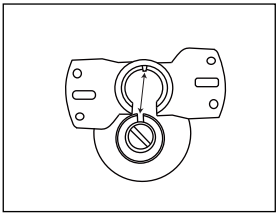

Figure 1
1. Insert the downrod ball head into the groove of the mounting bracket.(Figure 1)
- Your new ceiling fan will require a grounded electrical supply line of AC110~130V/60Hz15 Amp Circuit. Electrical code requires use of a fan-rated outlet box to support the extra weight and motion associated with a ceiling fan. A fan-rated box will be labeled as such and typically supports up to a 70lbs ceiling fan. Fan-Rated Outlet Boxes vary in rating and design. Ensure the ratings of your ceiling fan outlet box meet the requirements for the ceiling fan being installed. Figure 1, Figure 2 and Figure 3 depicts different structural configurations that may be used for mounting the outlet box.
- Low-profile use (Figure 1):